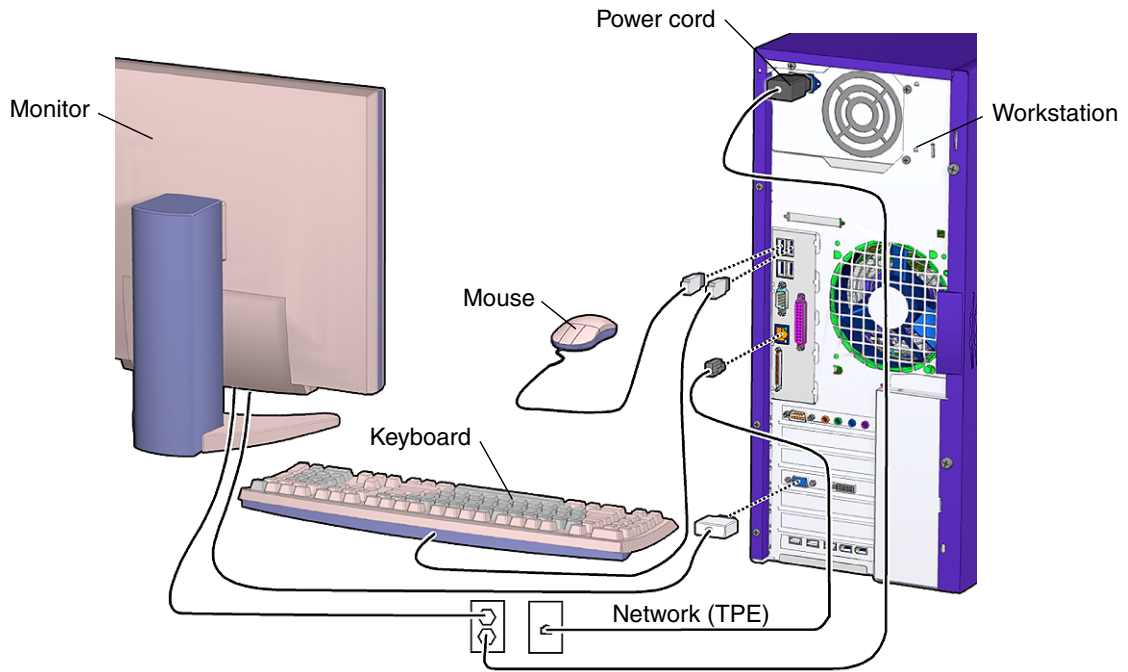

FIGURE 10-5 Disconnecting Attached Peripherals
6. Power off and disconnect all attached external peripherals and network connections (FIGURE 10-5).